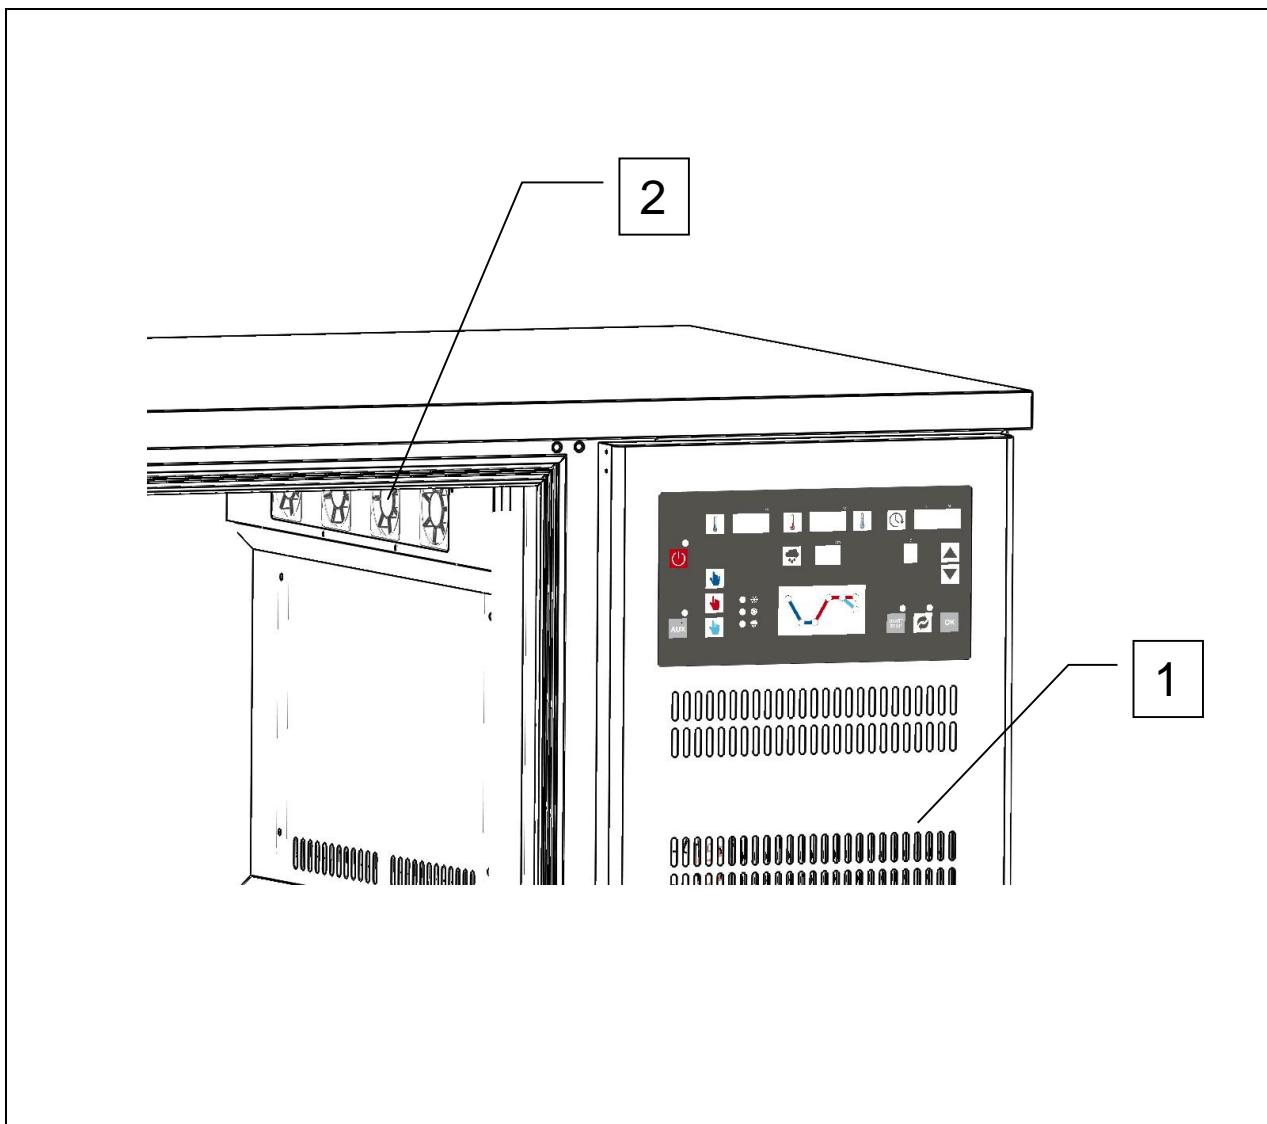

Fig. 5
- Front panel covering the condensing unit (ref. 1, fig.5);
- Internal shelves covering the evaporator fans (ref. 2, fig. 5).